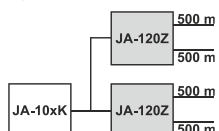

Figure 2: Extending the bus length for another 2x 500 m by each JA-120Z unit
- Extending the bus for more than 1x 500 m (JA-101K, JA-103K) or 2x 500 m (JA-106K, JA-107K), see Figure 2.